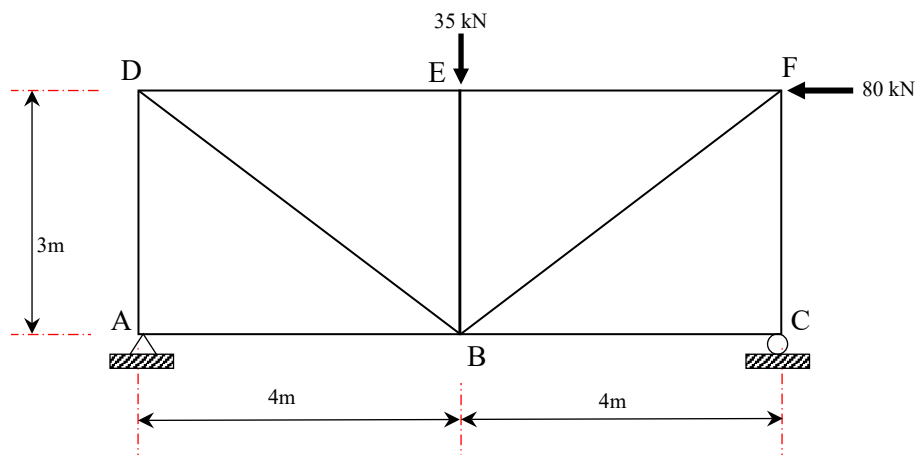

Figure A1(a) / Rajah A1(a)
- (a) A statically determinate truss is subjected to the external loads as shown in **Figure A1(a)**. The truss is subjected to a horizontal load of 80 kN at joint F.